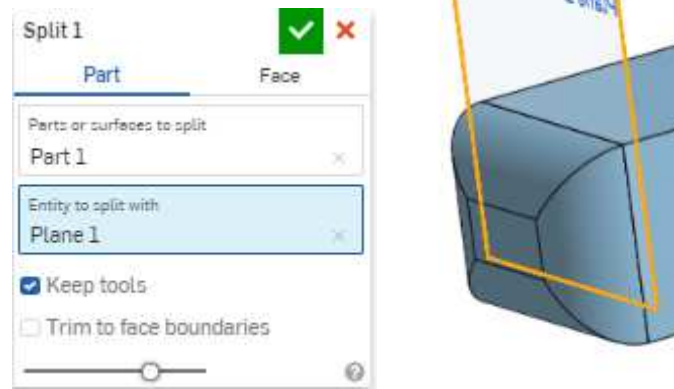

Figure 2.7: Splitting the front of the Ahmed body.
| Figure 2.7: Splitting the front of the Ahmed body | 8 |
- 4) Click on the “Split” tool () and make sure the part name corresponding to the Ahmed body is selected under the “Parts or surfaces to split” as shown in figure 2.7. If not, please click on the Ahmed body or select it from the parts tree.
- 5) Click on the “Entity to split with” and select the new plane as shown in figure 2.7 and click ok () to split. This will split the Ahmed body into 2 parts along the fillet edges which can be seen in the parts tree.